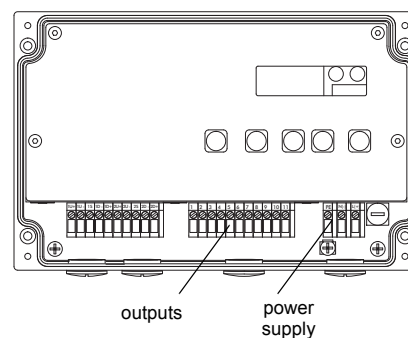

Fig. 5.10: Connection to the transmitter
- Remove the right blind plug for the connection of the power supply (see Fig. 5.10).
- Insert the power cable into the housing (see Fig. 5.10).
- Connect the leads to the terminals of the transmitter (see Fig. 5.10 and Tab. 5.7).
- Remove the second blind plug from the right for the connection of the outputs (see Fig. 5.10).
- Connect the leads to the terminals of the transmitter (see Fig. 5.10 and Tab. 5.8).